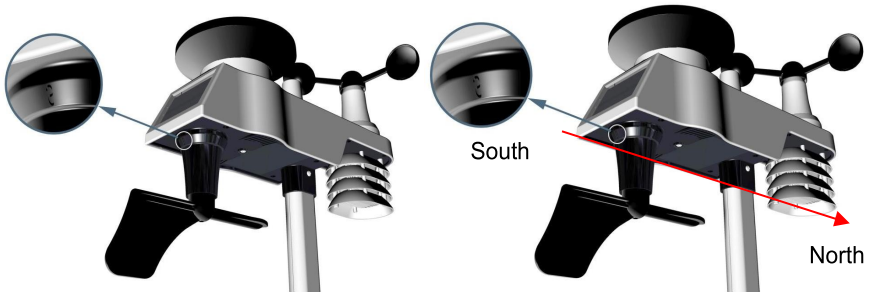

Figure 10
Step 1: There is a “S” indicator on the wind vane that indicates South, as shown in Figure 10. Align this “S” marker in the direction of South.